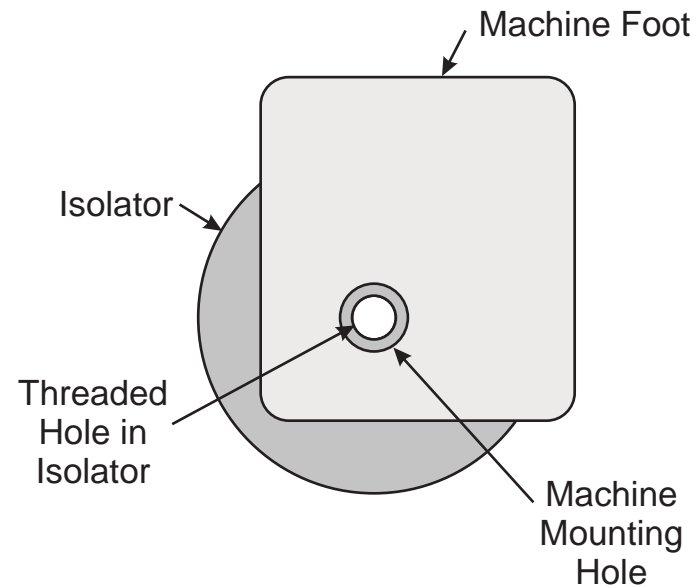

FIGURE 1
3. Lift the machines and position each isolator under the machine foot so there is uniform clearance between the threaded hole in the isolator and the inside surface of the mounting hole (see Figure 1). Any contact between the leveling screw and the inside surface of the mounting hole as it is turned into the isolator housing can cause the leveling screw to jam.